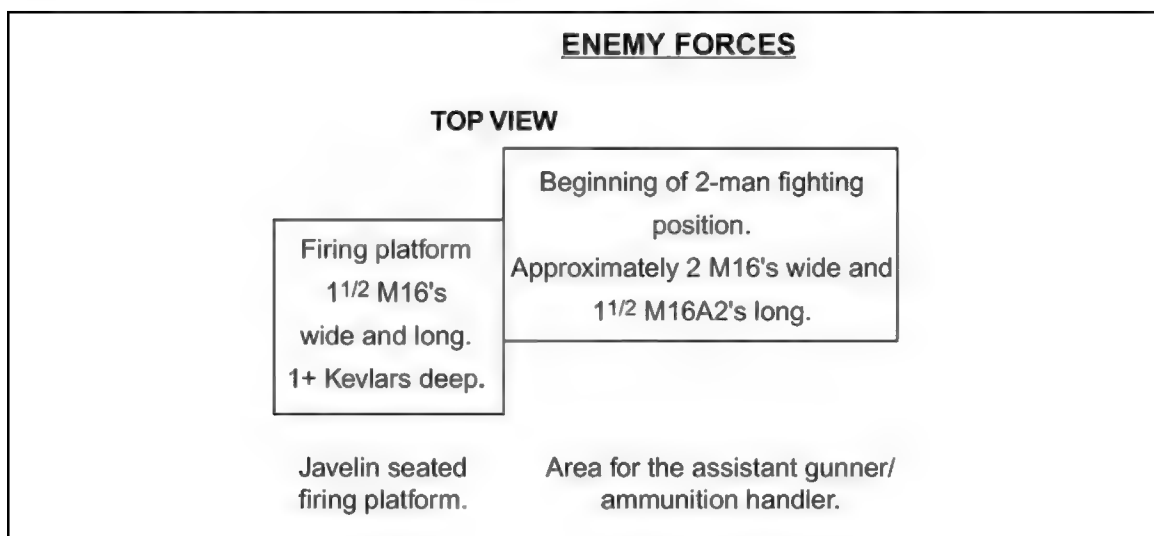

Figure 4-10. Improved hasty fighting position.
d. The gunner continues to improve the fighting position. The position expands to include cover and concealment for the assistant gunner/ammunition handler, if assigned. Once the fighting position begins to expand, then it becomes a *firing platform for the deliberate fighting position* (Figures 4-10 and 4-11).